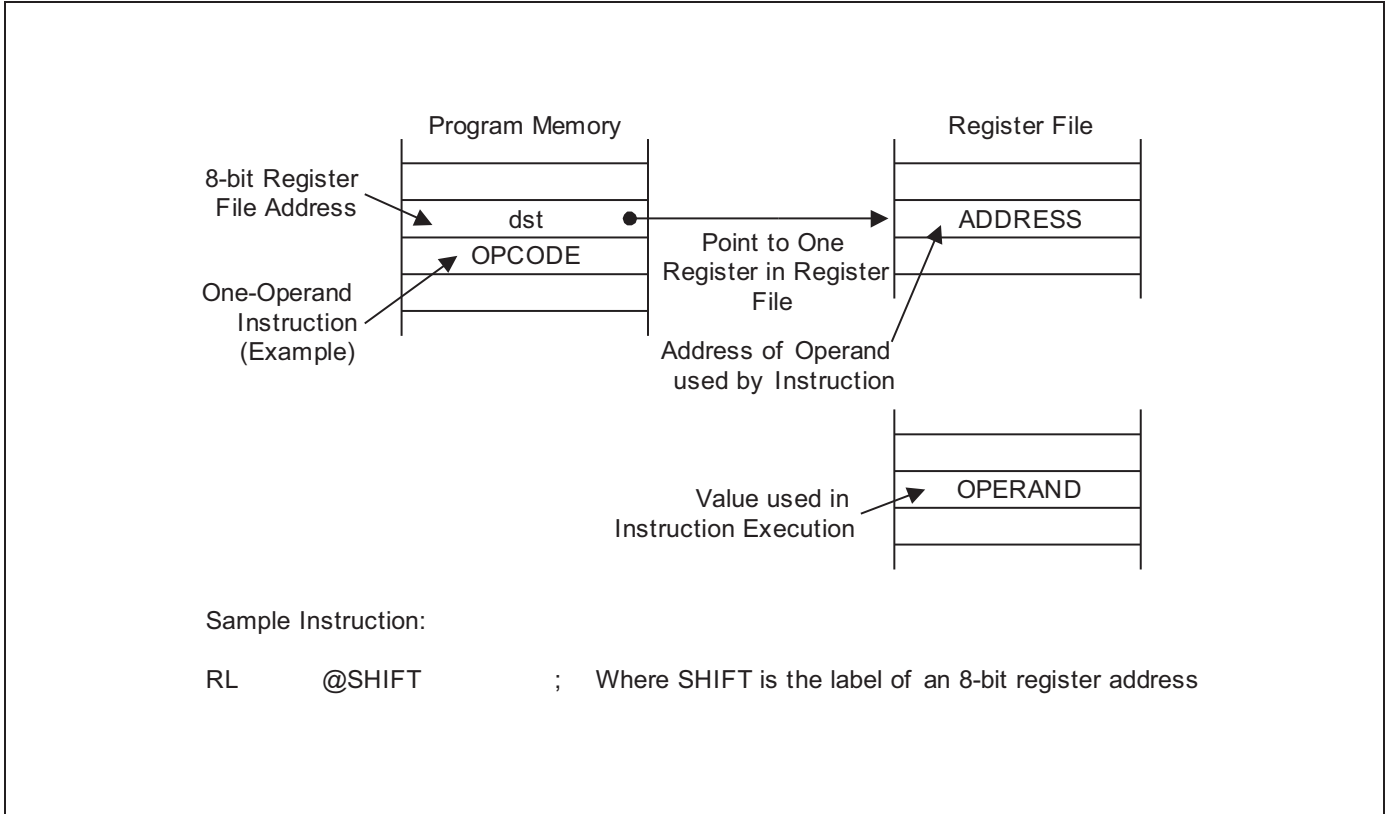
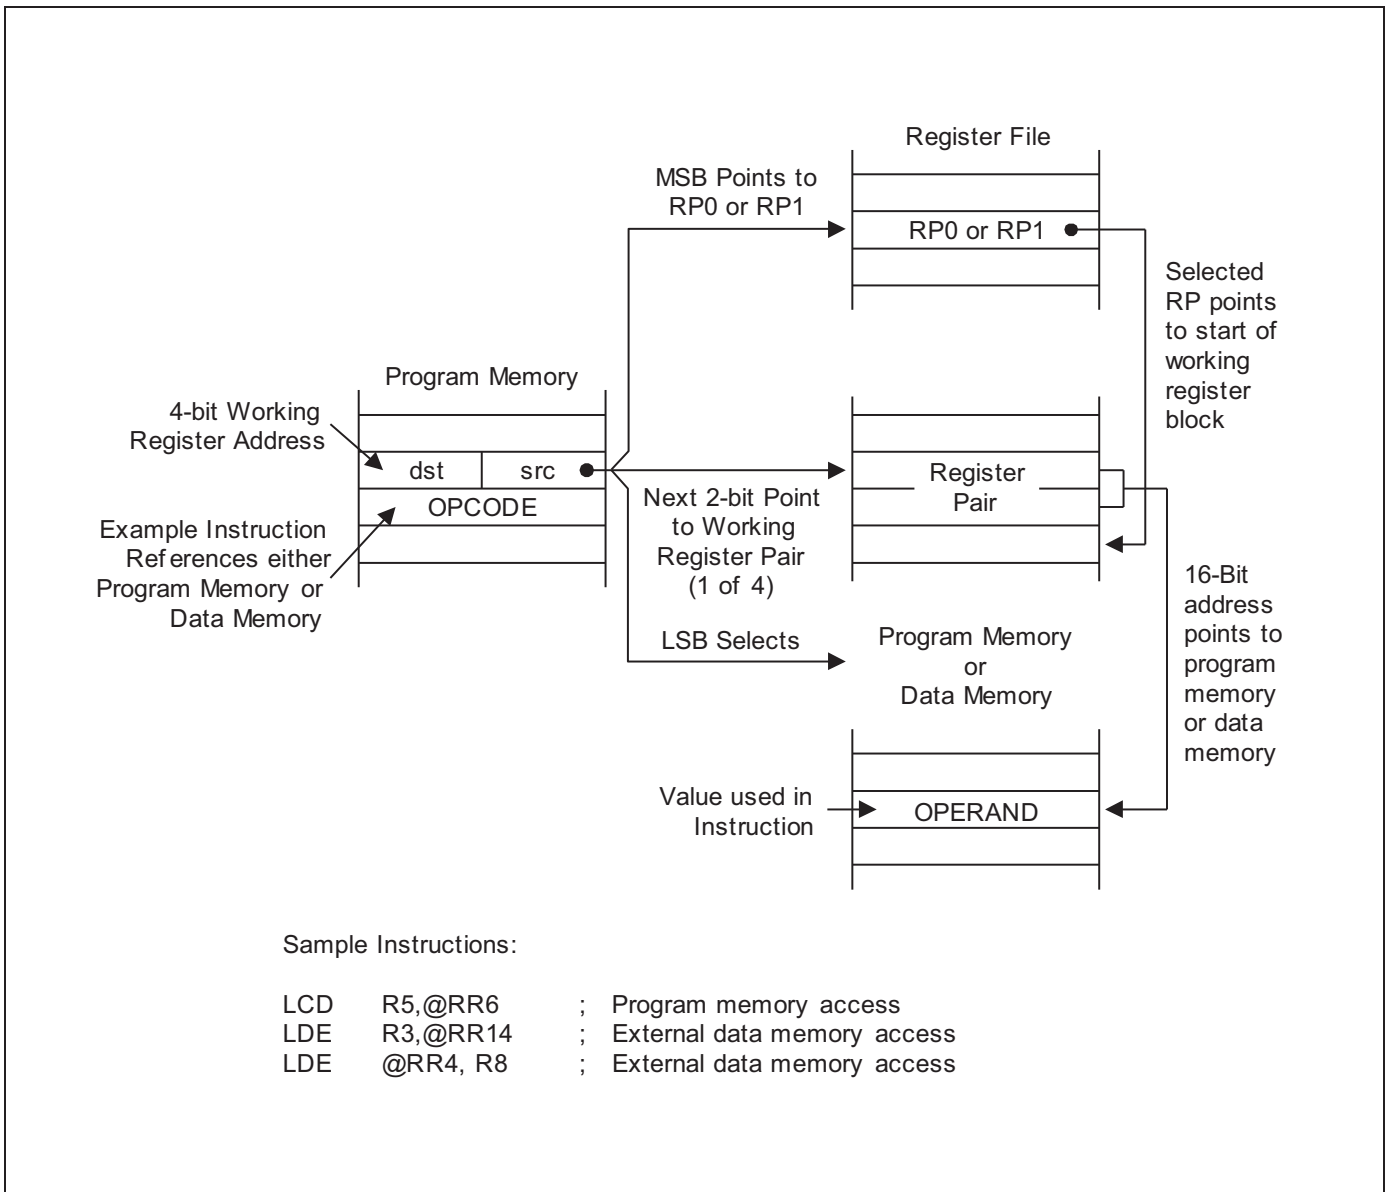

Figure 3-3 Indirect Register Addressing to Register File
Figure 3-6 Indirect Working Register Addressing to Program or Data Memory
In Indirect Register (IR) addressing mode, the content of the specified register or register pair is the address of the operand. Depending on the instruction used, the actual address may point to a register in the register file to program memory (ROM), or to an external memory space (Refer to Figure 3-3 and Figure 3-6 for more information).
Figure 3-3 illustrates the indirect register addressing to register file.
Figure 3-6 illustrates the indirect working register addressing to program or data memory.